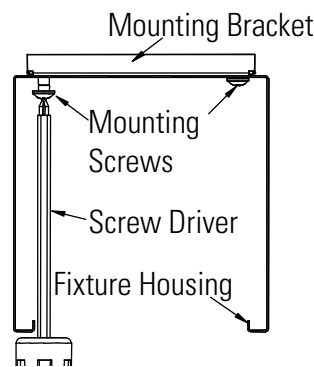

Figure 4
- D. Tighten the mounting screws. (Fig. 4)